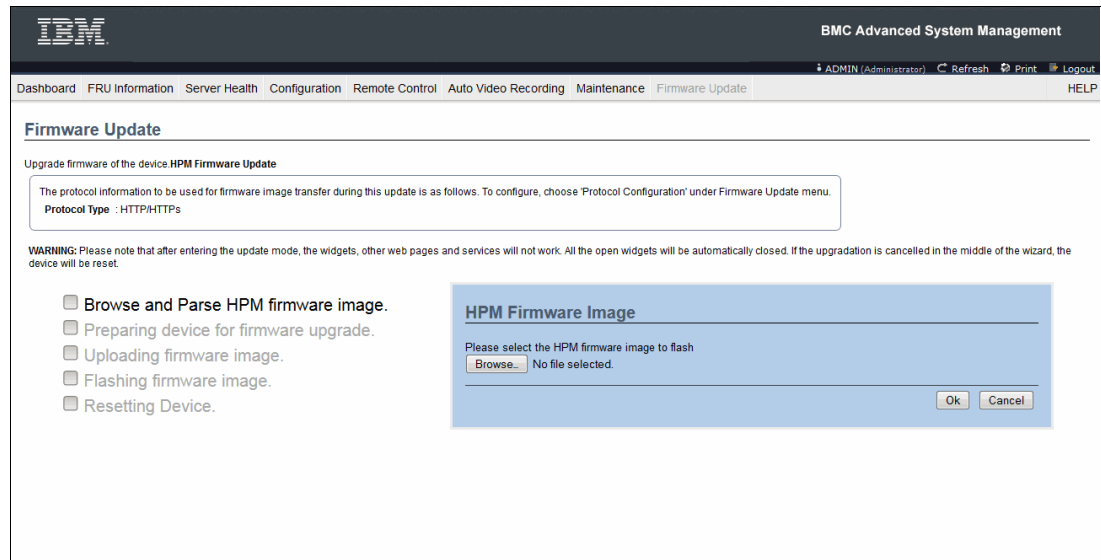

Figure 3-8 Select the firmware image
6. Select the firmware update file from your local disk by selecting **Browse and Parse HPM firmware image**, clicking **Browse**, and selecting the file, as shown in Figure 3-8.